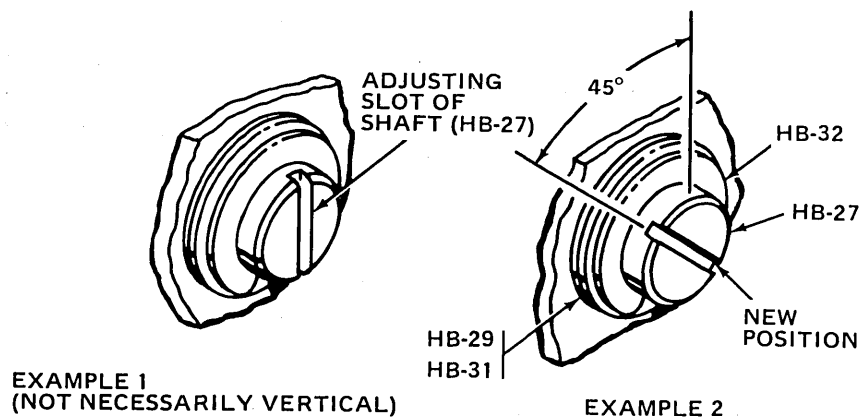

Figure 5-3. DETERMINING BACKLASH ADJUSTMENTS, SHAFT (HB-27)
3. Belt (HB-49) between riveted pulley shaft (146) and reverse pulley (HB-60); adjust belt tension by loosening screws (HB-39, 79). Position tensioner bracket (front) (HB-33) by making sure tensioner (HB-34) is pushed up against the belt completely before tightening screws.
- C. Backlash Adjustment of Intermediate Pulley (HB-30) For Forward Clutch (Fig. 5-3)